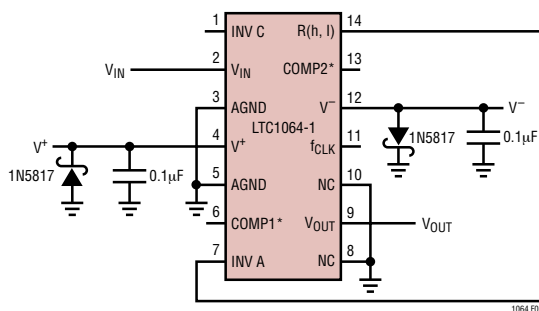

Figure 1. Using Schottky Diodes to Protect the IC from Power Supply Spikes
**V+, V- (Pins 4, 12):** The V+ and V- pins should be bypassed with a 0.1μF capacitor to an adequate analog ground. Low noise, nonswitching power supplies are recommended. *To avoid latchup when the power supplies exhibit high turn-on transients, a 1N5817 Schottky diode should be added from the V+ and V- pins to ground (Figure 1).*